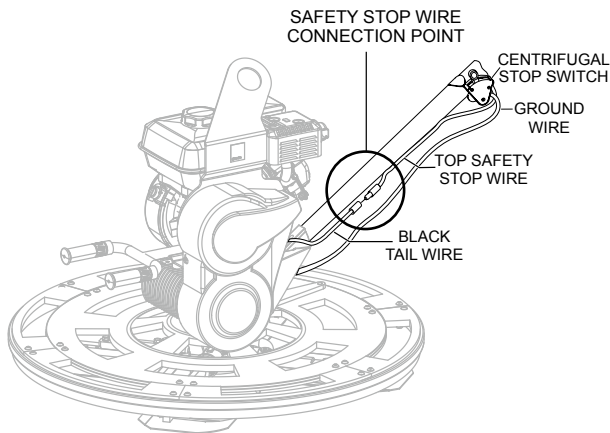

Figure 9. Safety Stop Switch Connection
1. Connect the black tail wire from the engine to the **top** black safety stop wire from the centrifugal stop switch as shown in Figure 9.